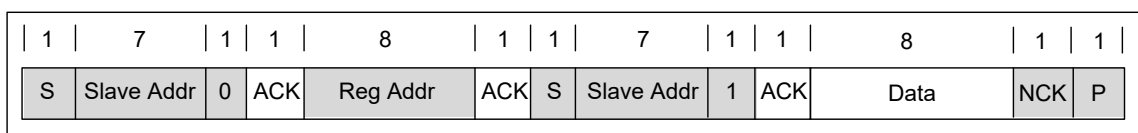

Figure 17. A Single Read Transaction
**READ:** If the master wants to read a single register (Figure 17), it sends a new START condition along with device address with R/W bit = 1. After ACK is received, master reads the SDA line to receive the content of the register. Master replies with NCK to inform slave that no more data is needed (single read) or it can send an ACK to request for sending the next register content (multi-read). This can continue until a NAK is sent by master. A STOP must be sent by master in any case to end the transaction.